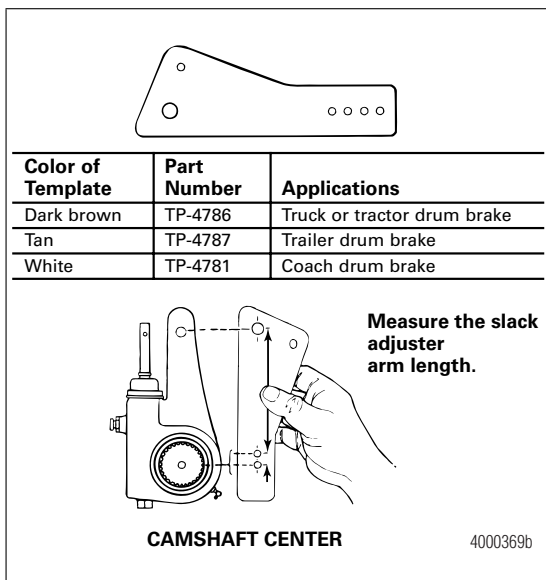

Figure 5.9
1. Use the correct Meritor automatic slack adjuster template to measure the length of the slack adjuster. The marks by the holes in the small end of the template indicate the length of the slack adjuster. Figure 5.9.